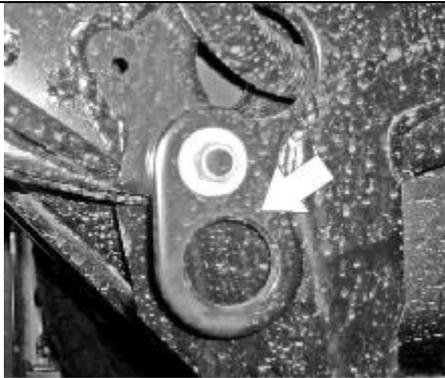

Figure 2 – Remove the shipping hook.
1. Remove the shipping hook from the vehicle and discard it. Refer to Figure 2.
Note: The shipping hook nut is shown in Figure 2.